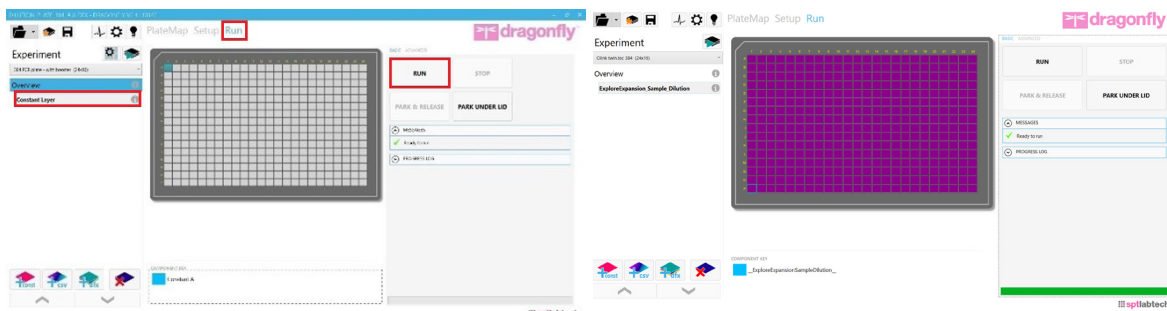

Figure 43. Run tab and Run button (left). Filled Plate (right).
5. Select the Run tab in the Constant layer view of the software (*Figure 43*), then click **RUN** to start the program.